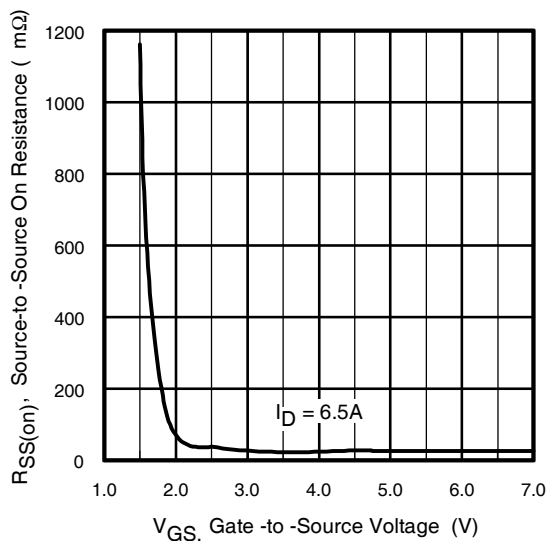

Fig 5. Typical On-Resistance vs. Gate Voltage. ⑤
- ⑤ Figures 5, 6 and 7: G1 and G2 are shorted. See Fig. 9a&b.
- ⑥ The diode connected between the gate and source serves only as protection against ESD.